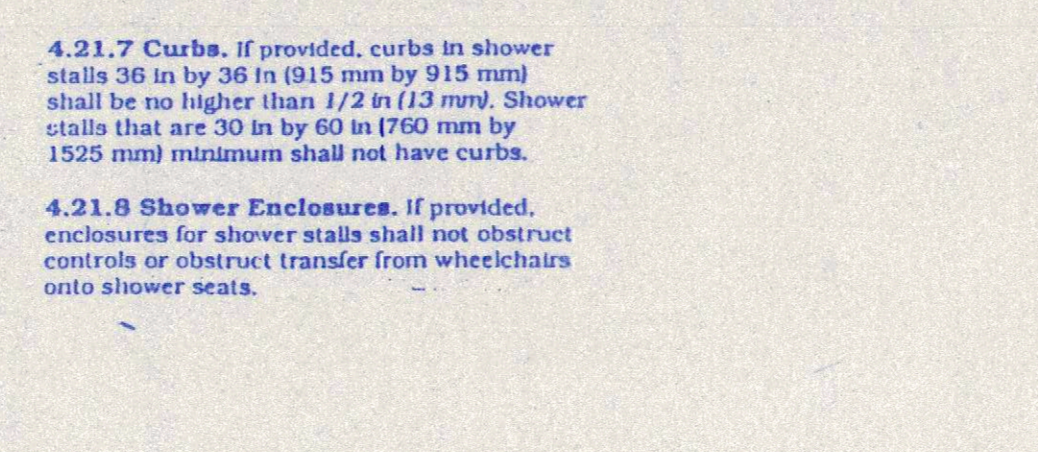

Fig. 35 Shower Size and Clearances
4.21.2 Size and Clearances. Except as specified in 9.1.2, shower stall size and clear floor space shall comply with Fig. 35(a) or (b). The shower stall in Fig. 35(a) shall be 36 in by 36 in (915 mm by 915 mm). Shower stalls required by 9.1.2 shall comply with Fig. 35(a).
(b) The shower stall in Fig. 35(b) will fit into the space required for a bathtub.